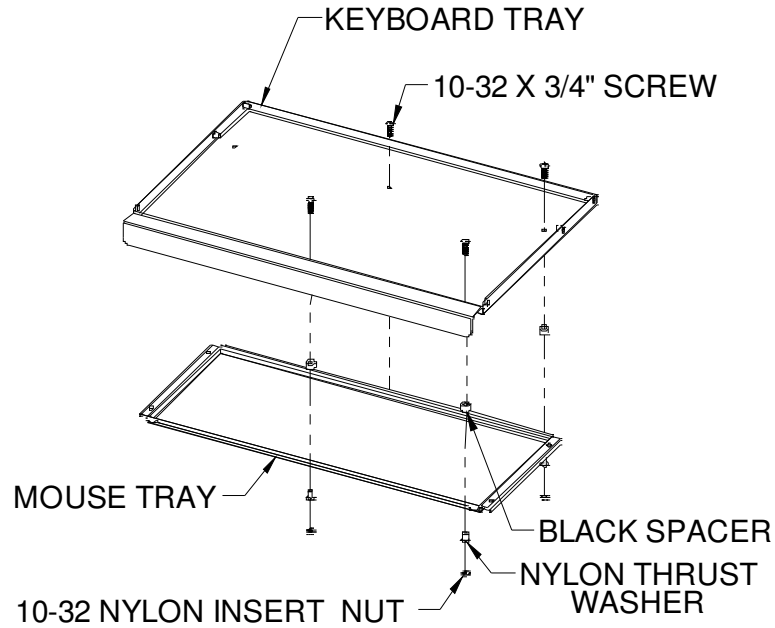

Figure 3
- Repeat this process, for the hole farthest from the handle, to the right or left of the center hole (depending on which way you want the Mouse Tray to slide out, to the right side is shown in Figure 3)